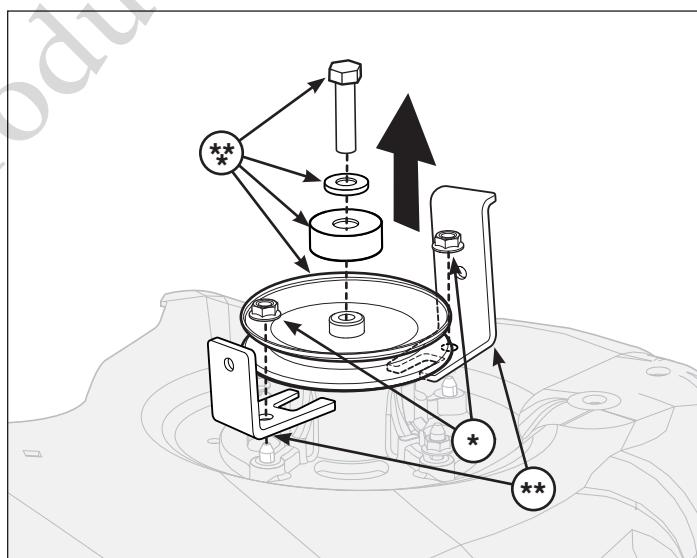

Figure 3
2. Remove nuts (*, Figure 3) from rear bracket and front bracket (**).